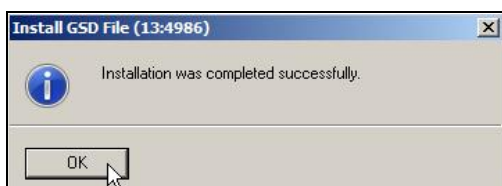

Figure 20: Message after successful installation
- 8) Once the installation is successful, click **OK** to the message (see: Figure 20: Message after successful installation), then **Close** the window as shown in step 7 above.